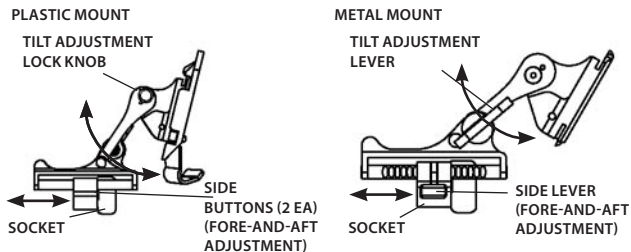

Figure 3-25. Tilt and Flip-up Assembly Mechanisms
Set your eye relief by depressing the side buttons (or, if using a metal mount, the side lever) (see Figure 3-25) and carefully move the monocular fore or aft until the eyecup comfortably seals around the eye. Readjust the helmet straps as required for vertical adjustment.
(4) Turn to the device ON. Adjust the tilt using the tilt adjustment lock knob, or tilt adjustment lever on the metal mount (Figure 3-25), until you obtain a comfortable viewing angle.
- (6) Adjust the eye relief distance by depressing the side buttons (Figure 3-25) (or, if using a metal mount, the side lever) and sliding the monocular back and forth until you obtain a full view of the image. Reset the diopter adjustment for the best image.